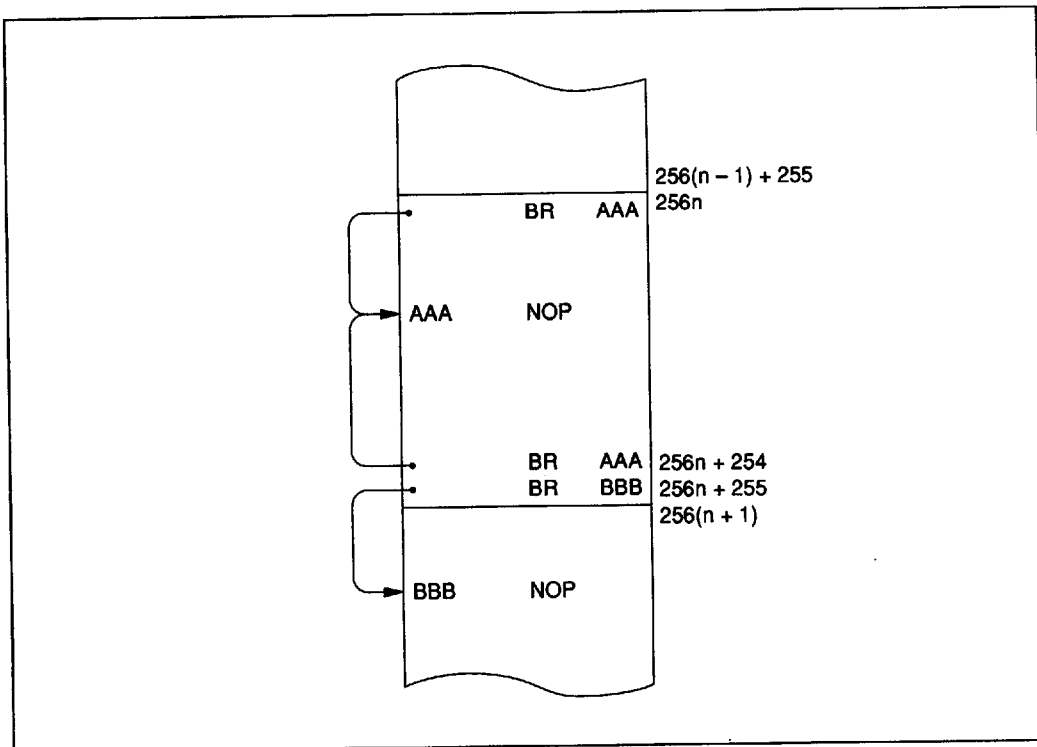

Figure 55 Branching when Branch Destination is on a Page Boundary
**Current Page Addressing Mode:** The MCU has 64 pages of ROM with 256 words per page. A program can branch to any address in the current page by executing the BR instruction. This instruction replaces the eight low-order bits of the program counter ( $PC_7$ – $PC_0$ ) with eight-bit immediate data. If the BR instruction is on a page boundary (address  $256n + 255$ ), executing that instruction transfers the PC contents to the next physical page, as shown in figure 55. This means that the execution of the BR instruction on a page boundary will make the program branch to the next page.